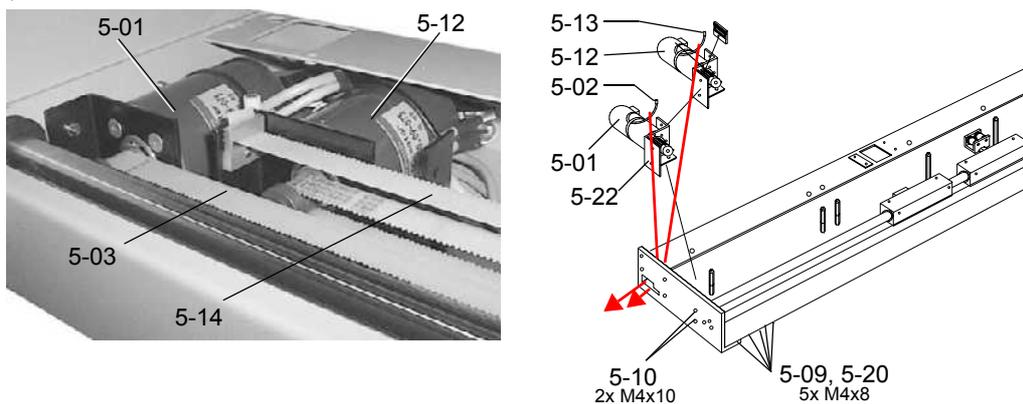

Figure 6-14 Installing the X-motors
- 3 Lead both X-motor cables through the slot in the X-bay (see arrows in Figure 6-14) and connect them to the CU board (J13 = LiHa, J09 = RoMa) (see Figure 6-22, 'CU board cable connections').